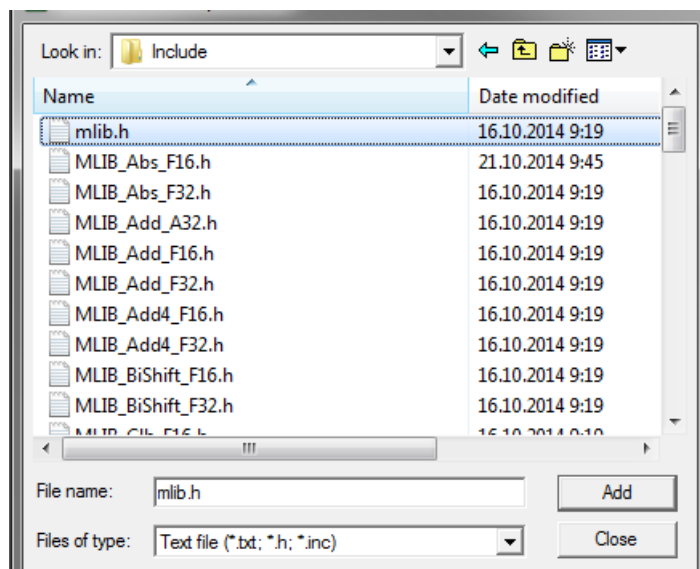

Figure 1-23. Adding .h files dialog
4. Navigate into the library installation folder C:\NXP\RTCESL\CM0_RTCESL_4.3_KEIL\MLIB\Include, and select the *mllib.h* file. If the file does not appear, set the Files of type filter to Text file. Click Add. See Figure 1-23.